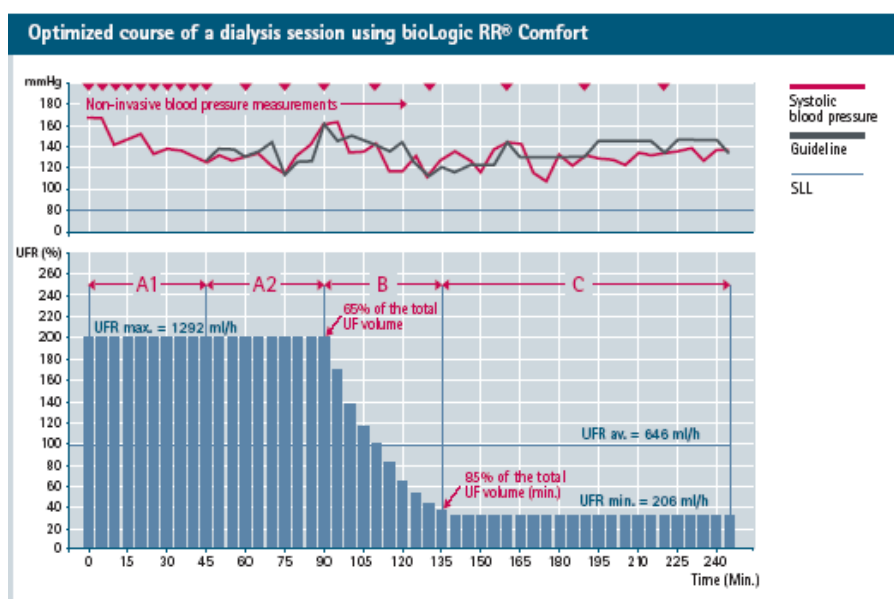

Fig. 11-10 Measuring intervals
Normally, dialysis is performed with maximum ultrafiltration (UF) rate until a UF volume of 65 % is reached. The UF rate is then slowly decreased until 85 % of total UF volume is reached and remains constant at low UF rates until end of therapy (Fig. 11-10).